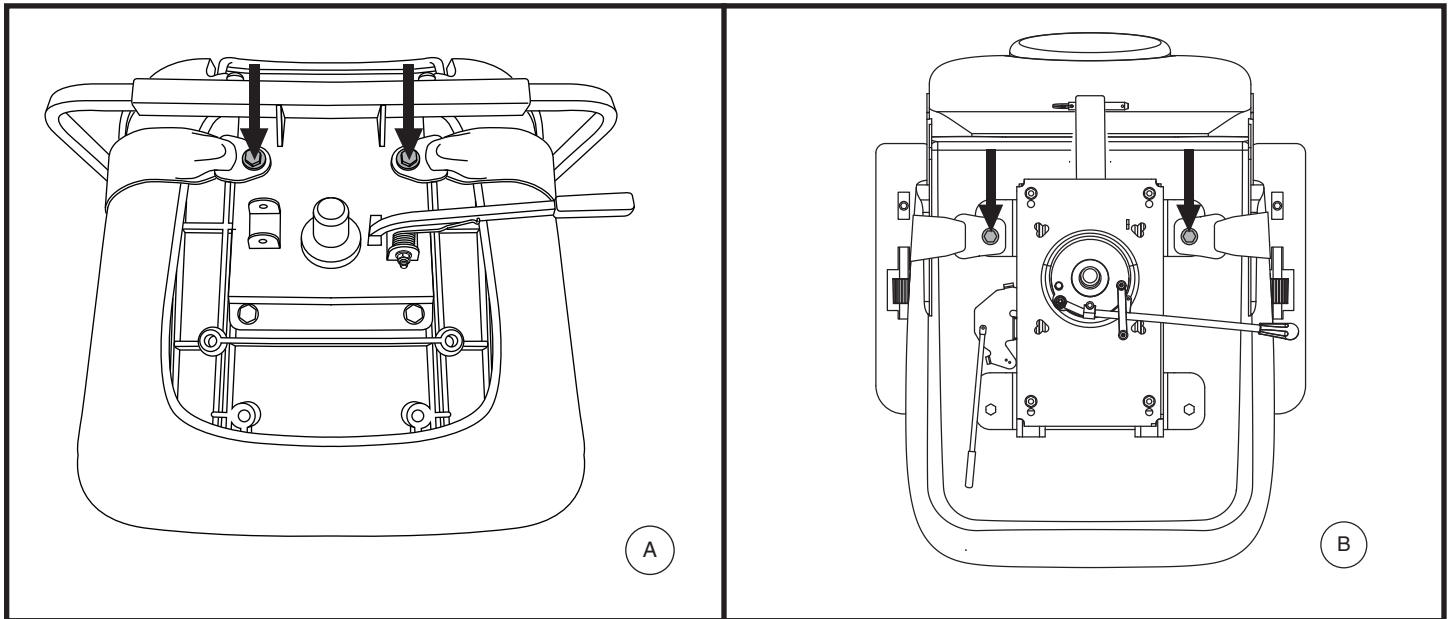

Figure 19. Positioning Belt Bolts
2. Place the seat upside down so that you can see the bottom of the seat base. **See figure 19.**